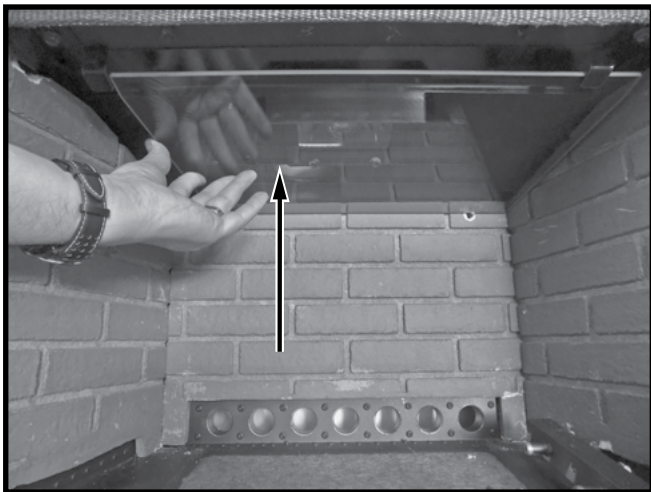

Figure 32: Raising baffle above front support.
2. Raise the opposite end of the baffle so that it is raised above the supports on the other side of the firebox (Figure 32).